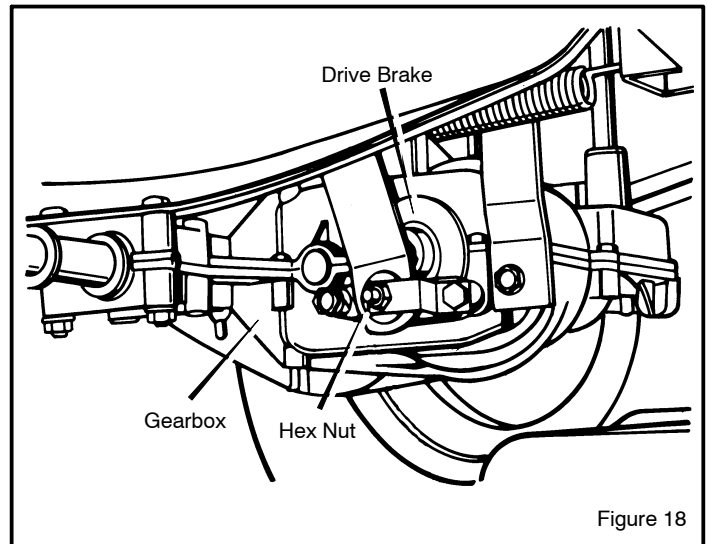

Figure 18
1. The location of the **drive brake** is on the right side of the **gearbox** (Figure 18).
2. Make sure the parking brake is set and the shift lever is in neutral (N). Turn the **hex nut** in a clockwise direction until the rear wheels do not turn when the unit is pushed forward.